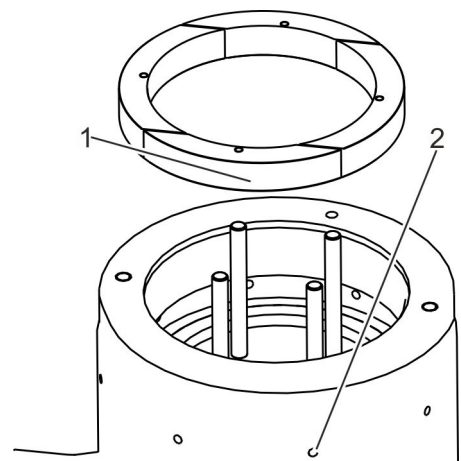

Fig. 9: Removing segments
6. → Using the pin puncher, punch the segments (Fig. 9/1) into the interior and through the outer ejection bores (Fig. 9/2).
7. → Remove the segments (Fig. 9/1).